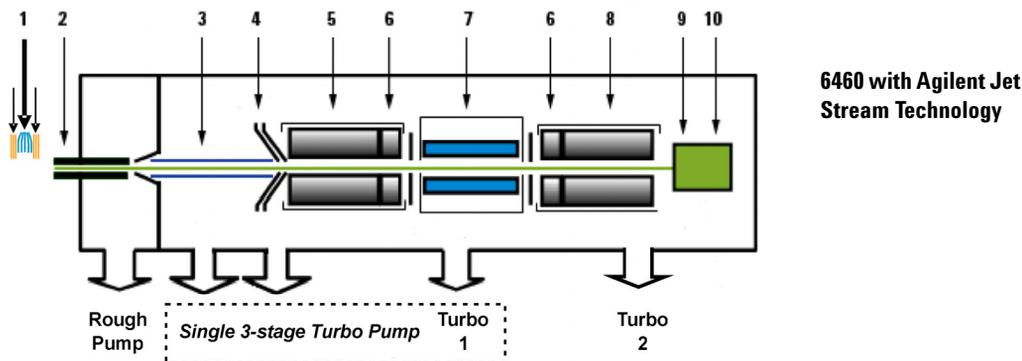

Figure 7 Multiple sources of noise on K6460
Triple quadrupole mass spectrometers exhibit multiple sources of noise, including noise from all chemical and cluster backgrounds and electronic noise (Figure 7).
The problem of noise must be addressed at several stages of the instrumentation from the ion source (1) to the detector (10) in Figure 7.
See Figure 7.
This section describes in more detail how each of the components of the K6460 Triple Quad Mass Spectrometer contributes to reducing noise (Figure 7).